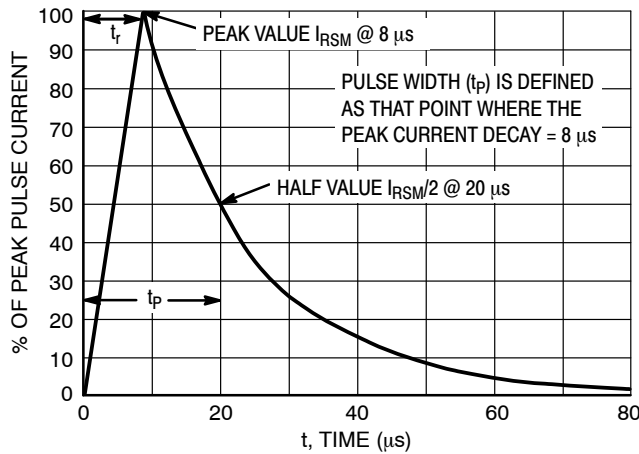

Figure 10. 8 x 20  $\mu\text{s}$  Pulse Waveform
- Non-repetitive current pulse at  $T_A = 25^\circ\text{C}$ , per IEC61000-4-5 waveform, See Figure 10.